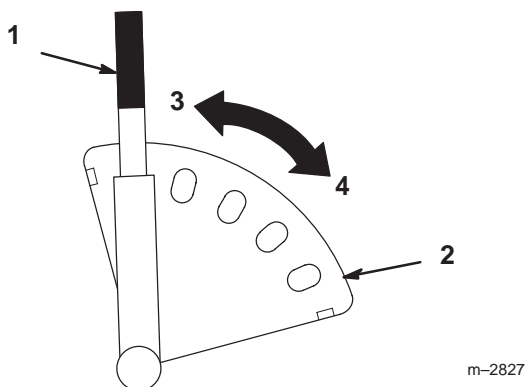

Figure 15
1. Pull height-of-cut lever out to disengage from quadrant. Adjust height-of-cut to the desired level. Release lever inward to lock into quadrant (Fig. 15).